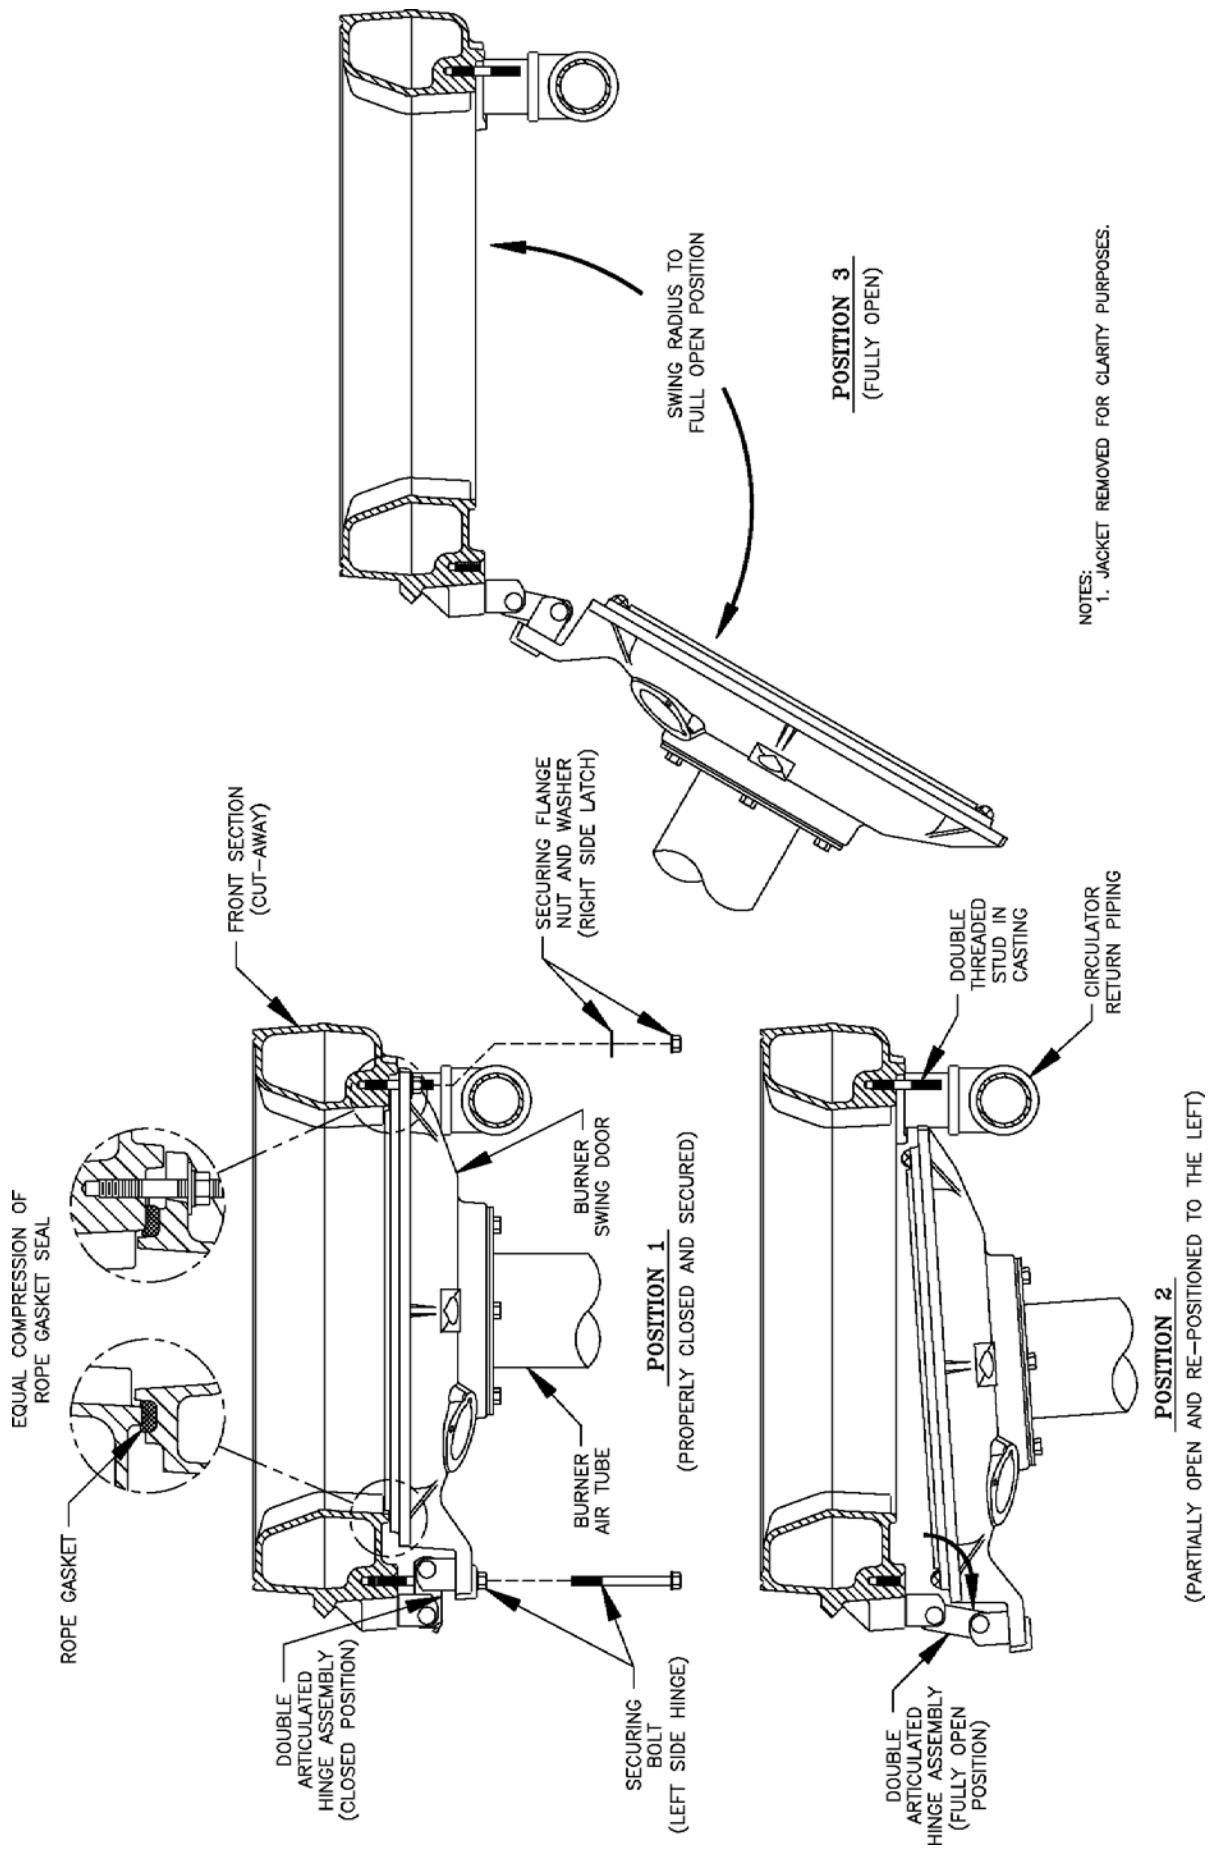

Figure 11B: Top View - Burner Swing Door Mounted to Cast Iron Block Assembly (Jacket Removed for Clarity)
Step 3. The dual pivot articulated hinge allows right side of door to be pulled outward and rotated to the left all in one motion. To do so, place your right hand under burner air tube and lift up slightly to help carry the weight of the door and burner. Use your left hand to grasp the door's left side hinge flange, pull outward to rotate the hinge, this motion will move the door outward and to the left approximately 3" (see Figure 11B, Position 2).
Step 4. From this position the door can be swung clear of the vertical circulator return piping to provide full access to the combustion chamber and burner head (see Figure 11B, Position 3).
Step 1. From the fully open position, rotate Burner Swing Door toward the closed position. Make sure that the articulated hinge is rotated to the extreme left position to allow the door to clear the vertical circulator return piping as shown in Figure 11B, Position 2.